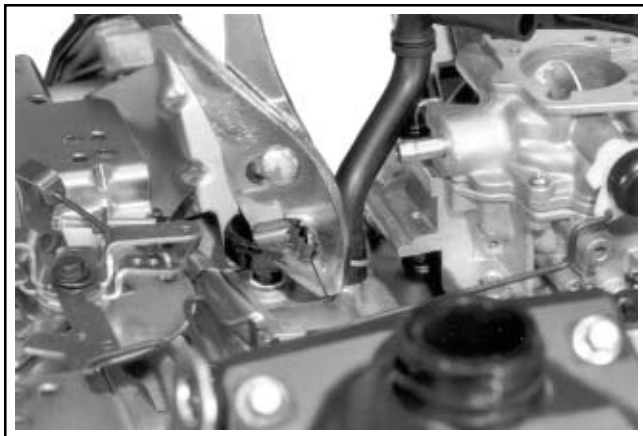

Figure 9-11. Removing Tube from Breather Cover.
6. Remove the rubber breather tube from the breather cover. See Figure 9-11.